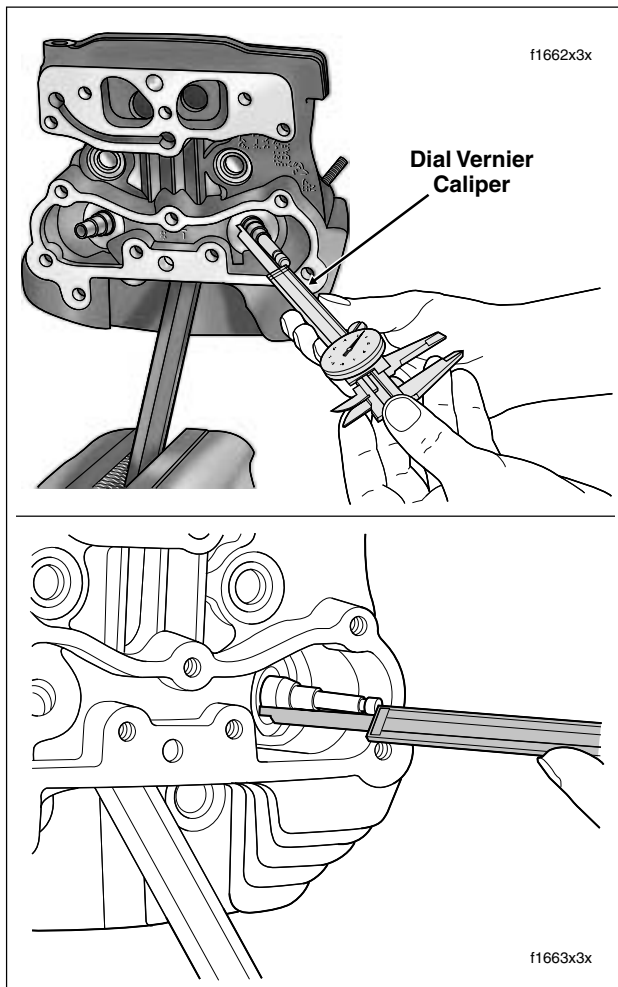

Figure 3-78. Measure Valve Stem Protrusion
6. Placing finger at bottom of valve to keep valve seated, use a dial vernier caliper to check the distance from the top of the valve stem to the machined area on the cylinder head. See Figure 3-78.